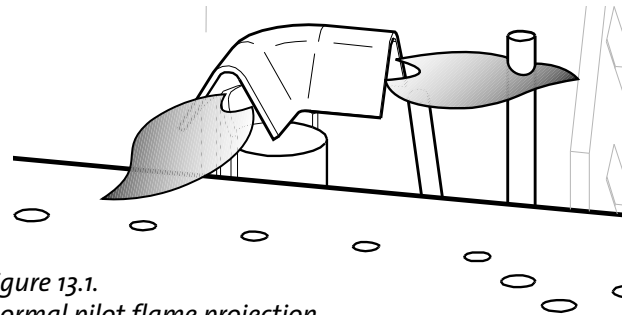

Figure 13.1.
- PILOT FLAME:** You can monitor the pilot flame located behind the burner at the rear of the firebox. The pilot flame should be steady - not lifting or floating. The flame should be blue in color around the pilot hood, with traces of yellow toward the outer edges. Fig. 13.1. The pilot flame should engulf the top 1/8" of the flame sensor. The pilot flame should project from the pilot hood port toward the burner carry-over ports. Adjust the pilot flame using the adjustment screw to the left of the valve regulator. See fig. 13.2.